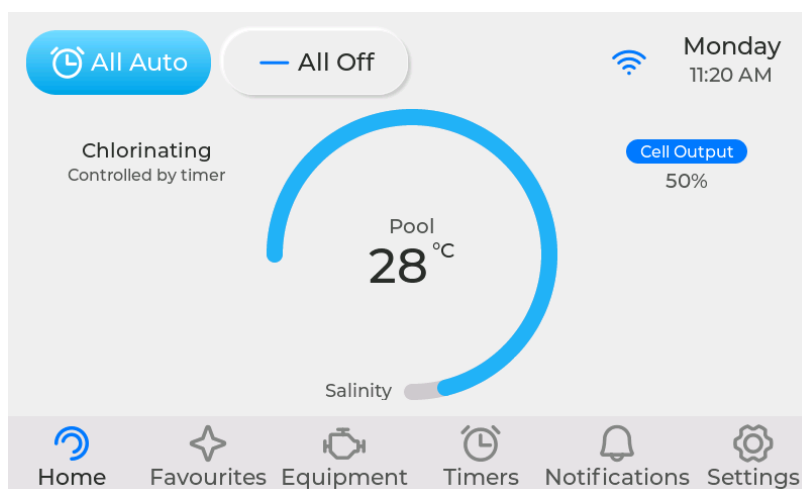

Figure 5. Home Screen
- The main status area shows whether Solo is sanitising, filtering, heating, in standby, in manual mode or waiting for the next timer. See *Figure 5*.